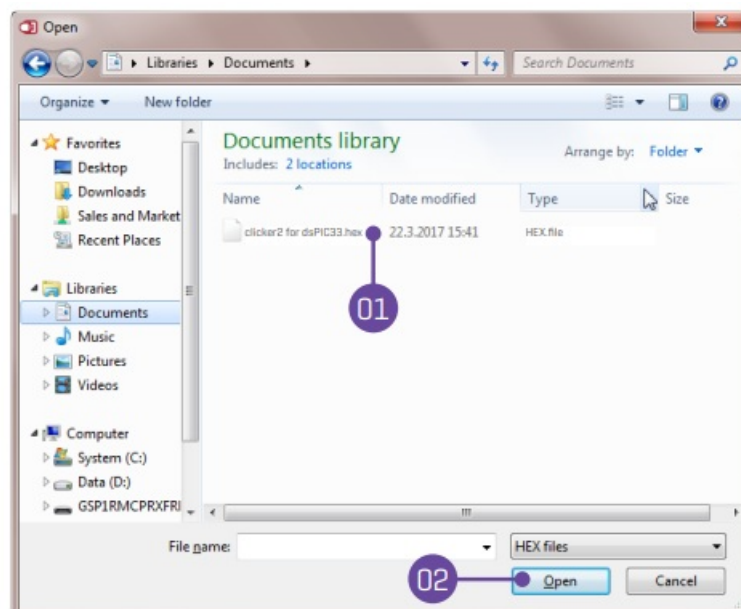

Figure 3-4: Selecting HEX
1. Click the Browse for HEX button and from a pop-up window (Figure 3.4) choose the .HEX file which will be uploaded to MCU memory.